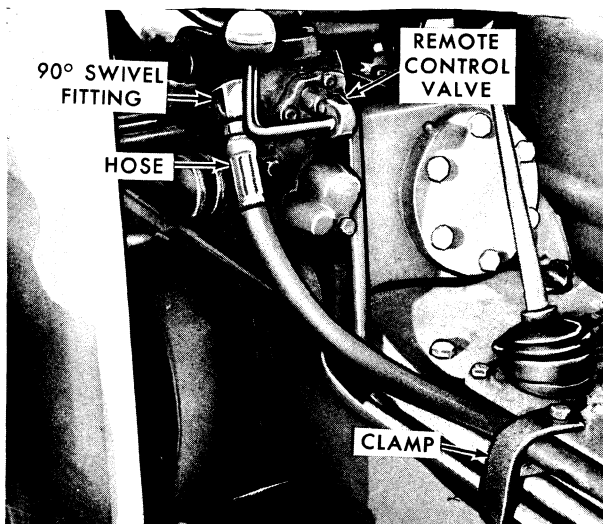

Figure 23
- Install the 90° swivel fitting and hose to the remote valve as shown in Figure 23. Connect the other end of the hose to the hydraulic tube fitting. Secure the hose clamps utilizing the existing bolts. Figure 23.